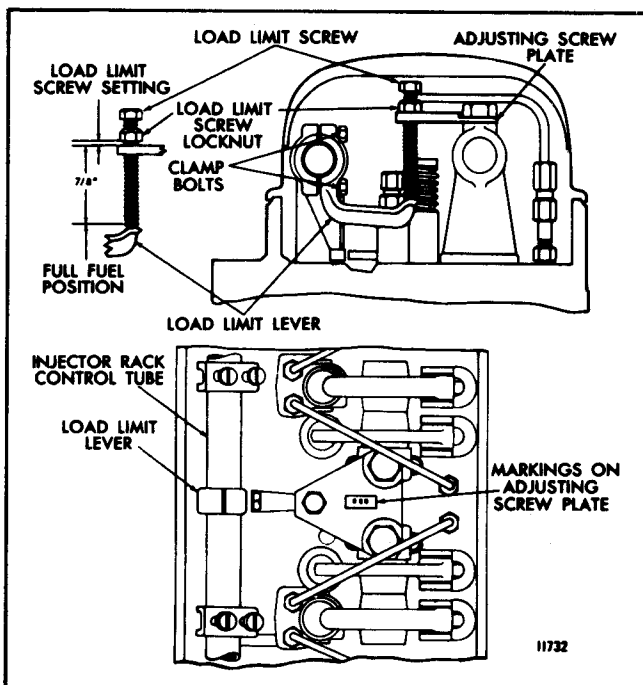

Fig. 1 - Engine Load Limit Device
After the engine tune-up is completed, make sure the load limit device is properly installed as shown in Fig. 1. Make sure the counterbores in the adjusting screw plate are up. The rocker arm shaft bracket bolts which fasten the adjusting screw plate to the brackets are tightened to 50-55 lb-ft (68-75 Nm) torque. Then adjust the load limit device, on each cylinder head, as follows:
3. With the screw out of the plate, adjust the load limit screw lock nut so the bottom of the lock nut is $7/8$ " from the bottom of the load limit screw for the initial setting (Fig. 1).